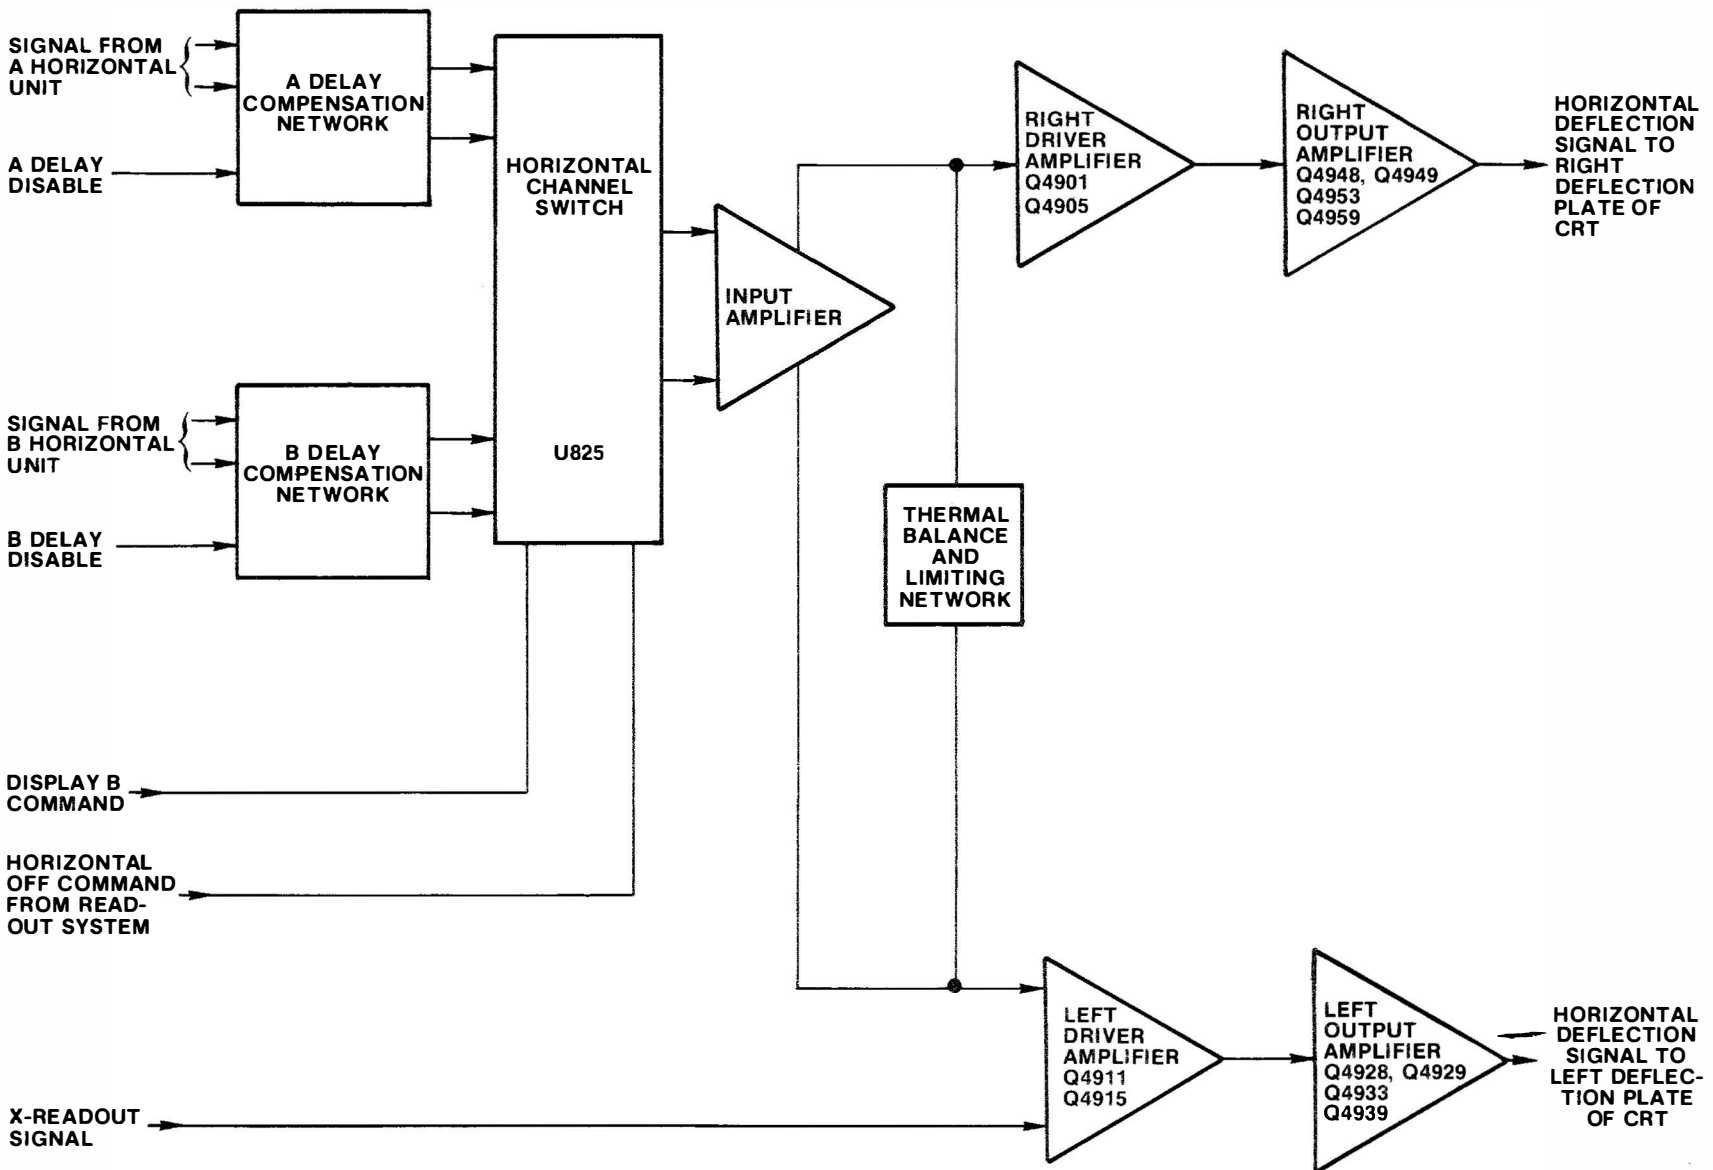

Fig. 3-41. Horizontal Amplifier detailed block diagram.
The Horizontal Amplifier circuit includes the X-Y Delay Compensation Network (Option 2 only), Horizontal Channel Switch, and Main Horizontal Amplifier circuits. The X-Y Delay Compensation Network provides a delay for the horizontal (X) signal portion of an X-Y display to match the delay of the vertical (Y) signal due to the Delay Line. The Horizontal Channel Switch portion of the circuit selects the horizontal deflection signal from the output of the A HORIZ and B HORIZ plug-in unit. The Main Horizontal Amplifier circuit amplifies the push-pull horizontal deflection signal from the Horizontal Channel Switch for application to the horizontal deflection plates of the crt. This circuit also accepts the X-signal from the Readout System to produce the horizontal portion of a readout display. Figure 3-41 shows a detailed block diagram of the Horizontal Amplifier circuit. A schematic of this circuit is shown on diagram 6 at the rear of this manual.